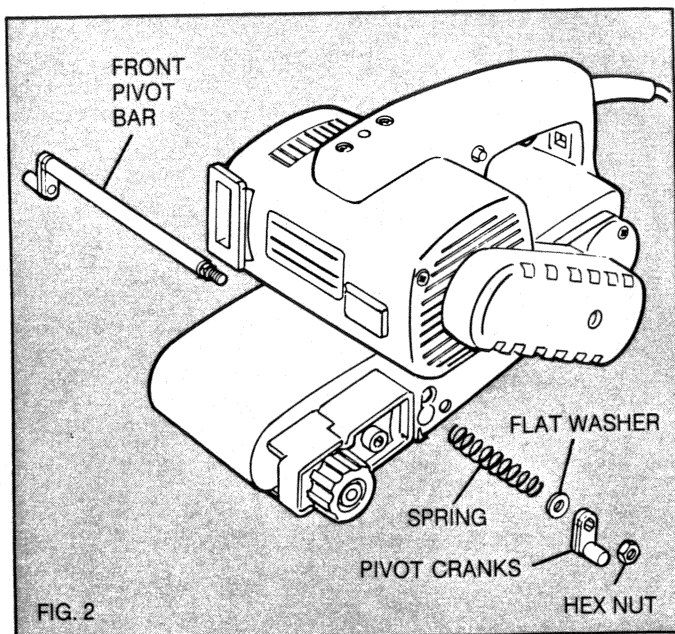

FIG. 2
3. Insert the pivot bar through the sander **FROM THE RIGHT SIDE** as shown in Figure 2. Examine the figure closely to determine the position of the spring and flat washer.